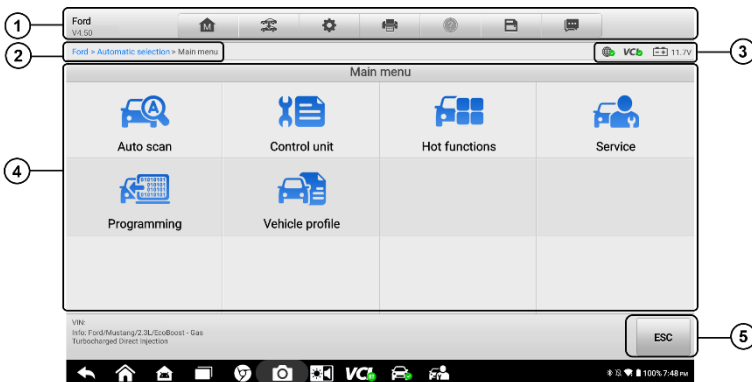

Figure 4-8 Main Menu Screen
1. Tap the **Diagnostics** application button on the OTOFIX Job Menu. Choose the corresponding vehicle information and enter the Main Menu screen (Figure 4-8).